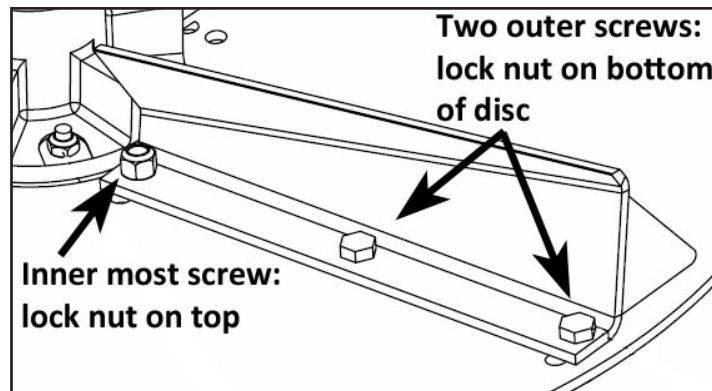

Figure 4 - Detail of cap screw positions
- Place capscrew in outer fin mounting hole from top side, through fin then spinner disc, as shown in Figure 4. On the underside of disc, place lock nut on screw and tighten by hand.
- Install inner cap screw in opposite direction, from bottom side, through spinner disc then fin (Figure 4). Install lock nut and tighten by hand.